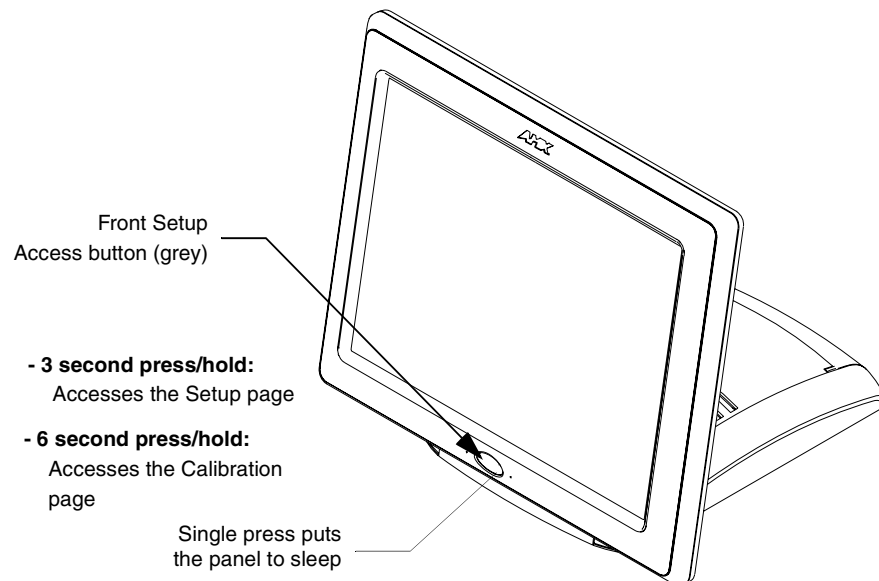
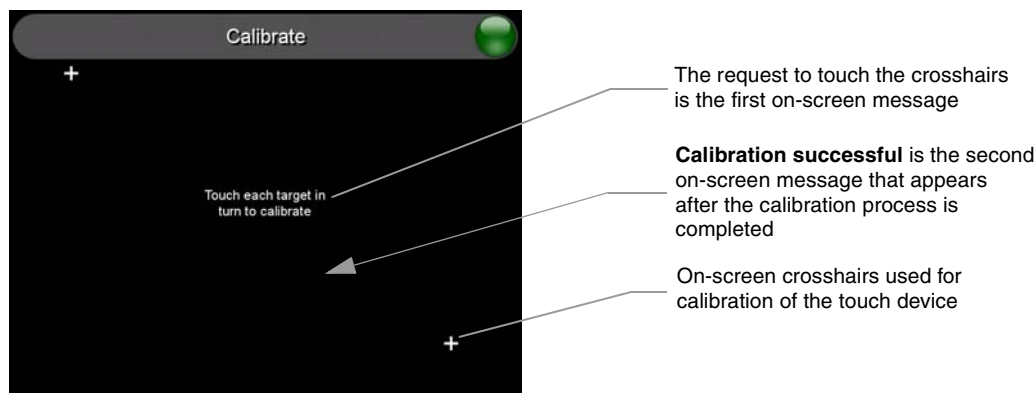

FIG. 68 Location of grey Front Setup Access button
FIG. 69 Touch Panel Calibration Screens
1. Press and hold the grey Front Setup Access button (FIG. 68) for **6 seconds** (passing-over the Setup page) to access the Calibration setup page (FIG. 69). *The panel should first be calibrated properly.*
2. Press the crosshairs (on the Calibration page) to set the calibration points on the LCD (FIG. 69).